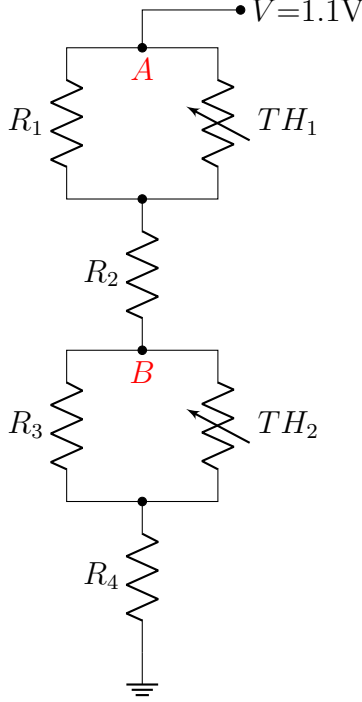
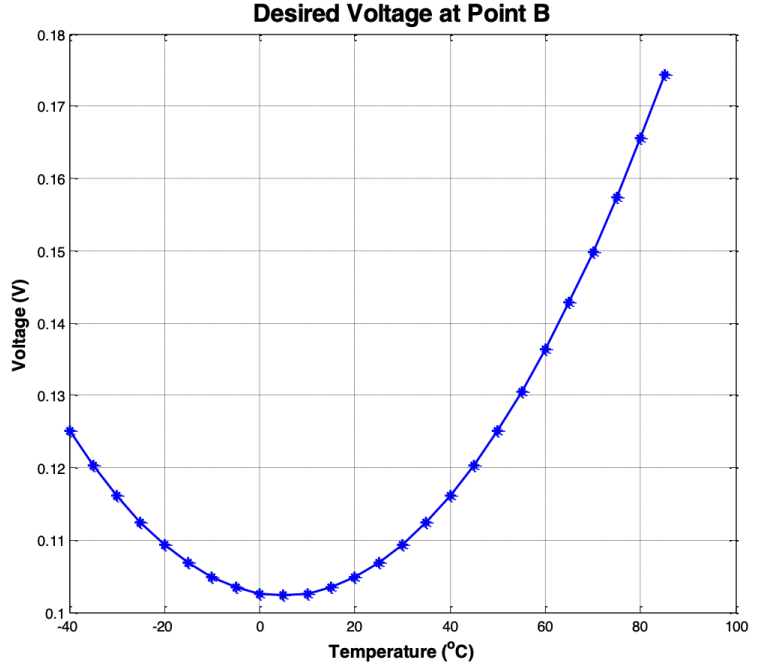

Figure 1: Circuit structure
Figure 2: Desired voltage curve [1]
The aim of this problem is to approach the expected voltage-temperature curve  $V(t)$  at point  $B$  shown in Figure 2 by choosing the best combination of the register values ( $R_1, R_2, R_3, R_4$ ), and Beta constants ( $\beta_1, \beta_2$ ) of the two thermistors within a particular range, using the Genetic Algorithm (GA). The circuit structure is shown in Figure 1.